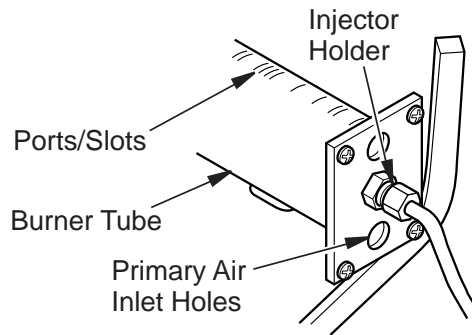

Figure 45 - Injector Holder On Outlet Burner Tube
2. Inspect burner, pilot, and primary air inlet holes on injector holder for dust and dirt (see **Figure 45**).